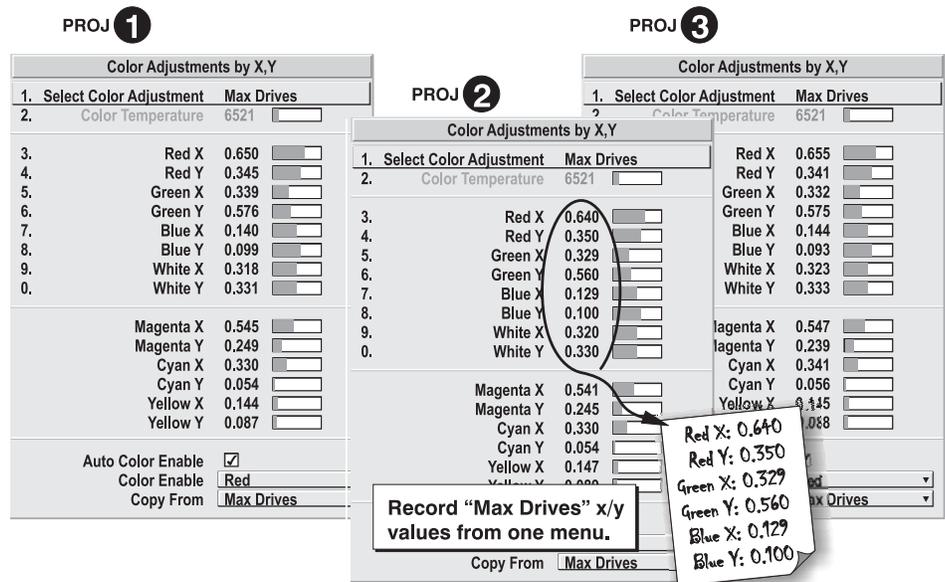

Figure 3.30. Jot Down a Set of “Max Drives” X/Y Values
4. Display the *Color Adjustments by X,Y* menus for all projectors. Each menu shows the x/y coordinates defining the “Max Drives” color gamut for this projector. Jot down the values shown in one (any) of the displays. See Figure 3.30. Or use “Copy From” to copy these into a “User” gamut for this projector.